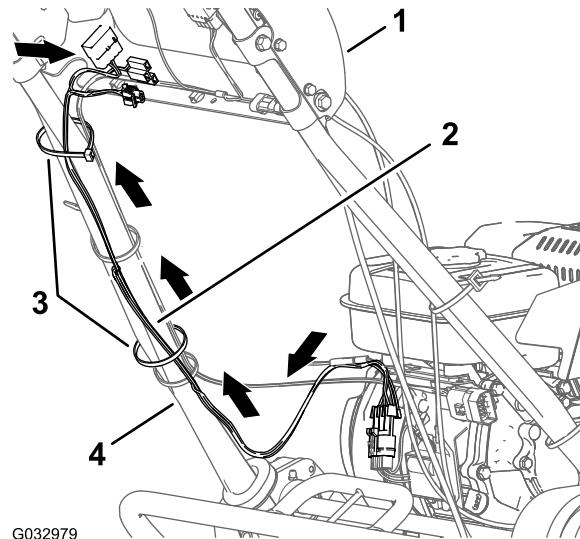

Figure 10
1. Route the wire harness from the mounting bracket to the left handlebar (Figure 10 and Figure 11).
3. Secure the wire harness with 2 cable ties as shown in Figure 10 and Figure 11.